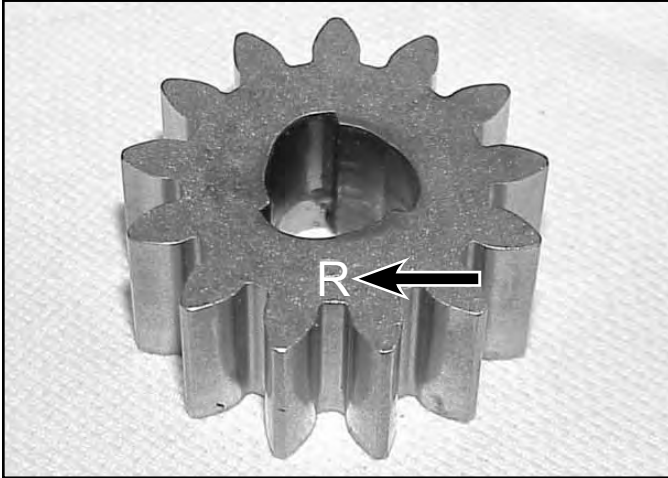

Fig 112
- The wheel pinion is marked with an R and L for right and left. Identify right and left from the operator's position (Fig. 112). On the right side, the R should face outward. The letter L should face outward on the left side. If the wheel pinions are reversed, the wheels will not drive.